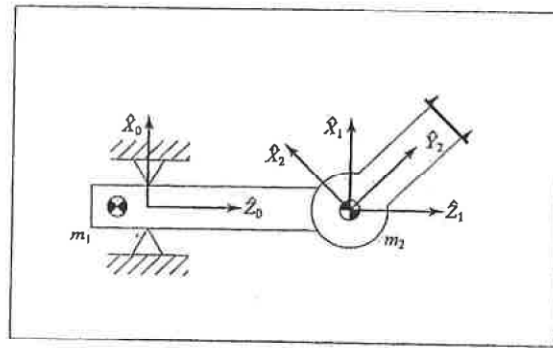

Figure 2
5. Derive the equations of motion for the PR manipulator shown in Figure 2. Neglect friction, but include gravity. (Here,  $\hat{X}_0$  is upward.) The inertia